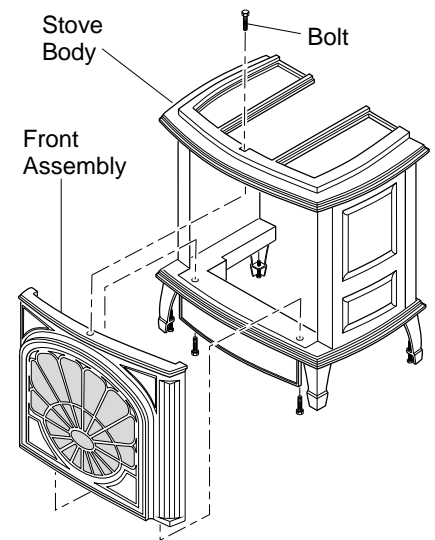

**Figure 11 - Attaching Stove Door**
9. Attach stove door by inserting step bolt through door hinge pivot hole and into threaded hole in stove body (see Figure 11 and Figure 9 on page 5). Use an adjustable wrench or a 12mm socket to fasten step bolt. Tighten step bolt until snug. Make sure door moves freely.